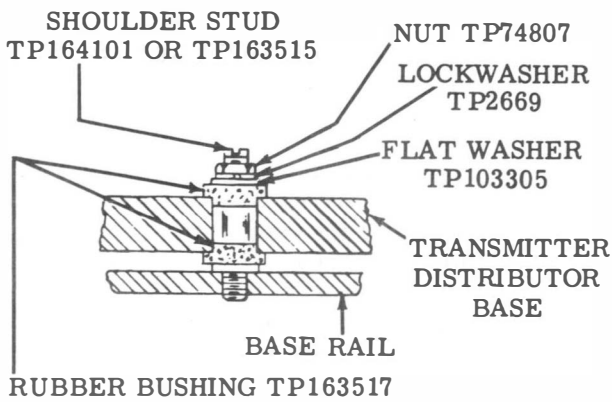
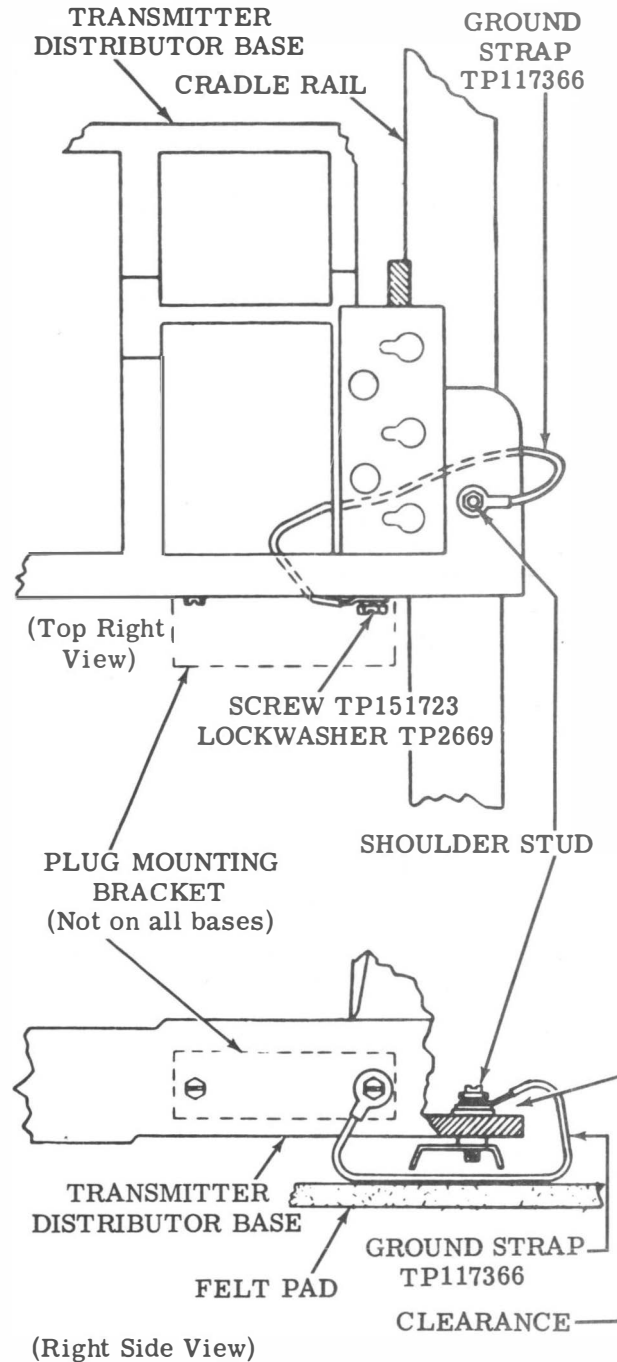

Figure 6 - Isolation Mounting of Transmitter Distributor Base
Figure 7 - Installation of Transmitter Distributor Base Ground Strap
8.06 Insert and tighten the three shoulder studs (furnished with TD base) into the TD base mounting holes in the front and rear cradle rails. Place a rubber bushing (furnished with TD base) over each stud (smaller diameter of bushings upward). Position the TD base (with TD unit) over the three studs so that the smaller diameter of the bushings extends into the mounting holes of the base, and the base rests on the shoulders of the bushings. Route the ground strap forward under the base, onto the rear under the rear cradle rail. Route cabling under the cradle rails and plug into connector on the TD unit. Mount the connectors (also resistors if applicable) using the hardware furnished (see Figures 6 and 7).
8.07 Place a rubber bushing (with smaller diameter downward) on the three studs that now extend upward through the mounting holes of the base. The smaller diameter of the bushings must extend into the base mounting holes. Place a washer, lockwasher, and nut (furnished with TD base) on each stud (the terminal of the ground strap should be placed on top of the washer on the right rear stud and followed by the lockwasher and nut); do not tighten the nuts (see Figures 6 and 7).
9.03 Insert and tighten the three shoulder studs (furnished with TD base) into the TD base mounting holes in the front and rear cradle rails. Place a rubber bushing (furnished with TD base) over each stud (smaller diameter of bushing upward). Position the TD base (with TD unit) over the studs so that the smaller diameter of the bushing extends into the mounting holes of the base, and the base rests on the shoulders of the bushings. Route the ground strap forward and under the base, then to the rear under the rear cradle rail (see Figure 7). Route cabling along the right side of the base.
9.04 Place a rubber bushing (with smaller diameter downward) on the three studs that now extend up through the mounting holes of the base. The smaller diameter of the bushings must extend down into the base mounting holes. Place a washer, lockwasher, and nut (furnished with TD base) on each stud (the terminal of the ground strap should be placed on top of the washer on the right rear stud followed by the lockwasher and nut); do not tighten the nuts (see Figures 6 and 7). Couple the TD shaft to the keyboard shafting with a flexible coupling. The flexible couplings should be installed with the external hub on the TD base shaft. Utilize the play in the TD base mounting holes to line up the driving shaft, coupling shaft, and keyboard perforator power shafting; check with straight-edge rule. Tighten the TD base mounting nuts and the coupling screws. In order to prevent transmission of vibration, neither the terminal nor the wire of the ground strap should touch the TD base. The wire should be slack. If necessary, bend the terminal upward for clearance (see Figure 7).
- 10.02 Insert and tighten the three shoulder studs (furnished with TD base) into the TD base mounting holes in the front and rear cradle rails. Place a rubber bushing (furnished with TD base) over each stud (smaller diameter of bushings upward). Position the TD base over the studs so that the smaller diameter of the bushings extends into the mounting holes of the base, and the base rests on the shoulders of the bushings (see Figure 6).
- 10.03 Route the ground strap forward and under the base, then to the rear under the rear cradle rail (see Figure 7). Place a rubber bush-
ing (with smaller diameter downward) on the three studs that now extend up through the mounting holes of the base. The smaller diameter of the bushings must extend into the base mounting holes. Place a washer, lockwasher, and nut (furnished with TD base) on each stud (the terminal of the ground strap should be placed on top of the washer on the right rear stud followed by the lockwasher and nut); do not tighten the nuts (see Figures 6 and 7). Couple the TD shaft to the keyboard shafting with a flexible coupling. The flexible couplings should be installed with the external hub on the TD base shafts. Utilize the play in the TD base mounting holes to line up the driving shaft, coupling shaft, and keyboard perforator power shafting; check with straight-edge rule. Tighten the TD base mounting nuts and the coupling screws. In order to prevent transmission of vibration, neither the terminal nor the wire of the ground strap should touch the TD base, and the wire should be slack. If necessary, bend the terminal upward for clearance (see Figure 7).
CAUTION: ANY TD BASE WHICH IS EQUIPPED WITH RUBBER ISOLATION BUSHINGS MUST BE GROUNDED TO THE CRADLE USING THE GROUND STRAP AS SPECIFIED IN THE FOREGOING TEXT AND FIGURE 7. ALSO, CHECK TO SEE THAT THE CABINET IS CONNECTED TO THE COMMON STATION GROUND AS SPECIFIED IN THE FOREGOING TEXT.